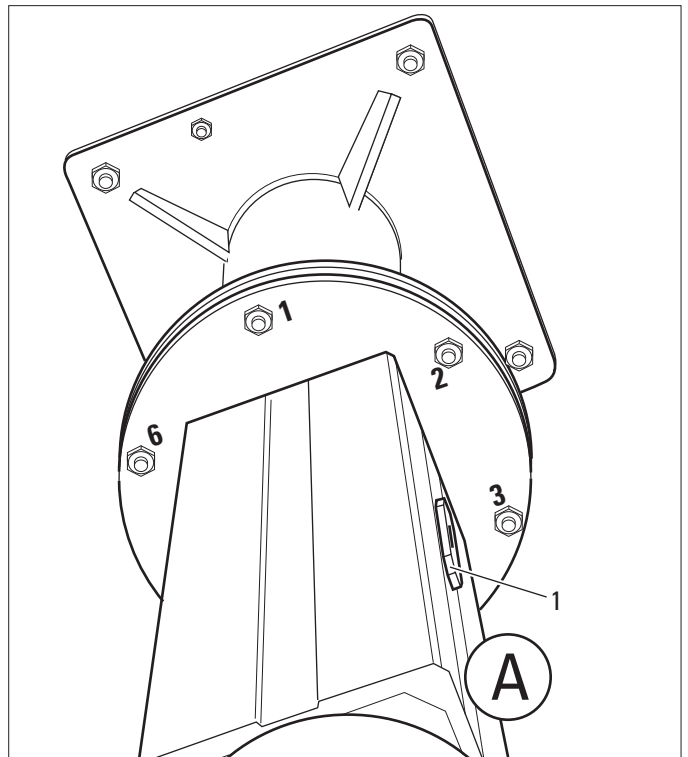

Fig. 2
- ⇒ Place the precision spirit level (1) vertically on Side **A** below Screw 2 at the upper segment of the Telescope Mount (Fig. 2).